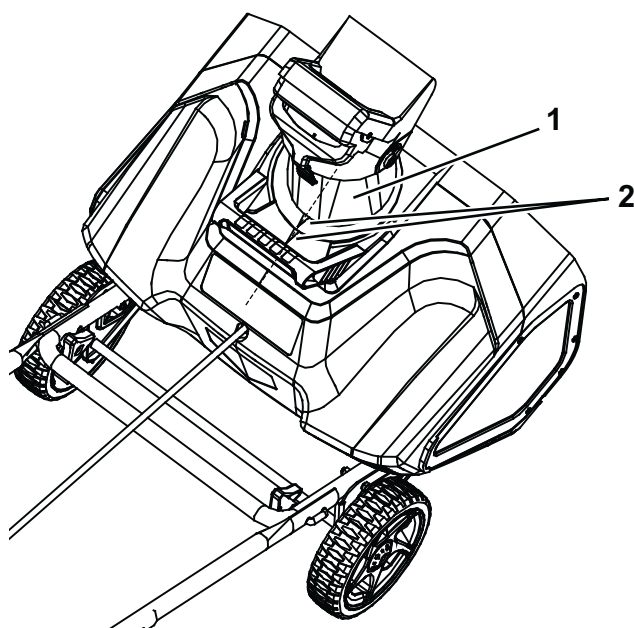

Fig. 5
- Position the discharge chute (1) so that it faces forward.
NOTE: Align the arrow (2) on the discharge chute with the arrow on the housing. (Fig. 5)